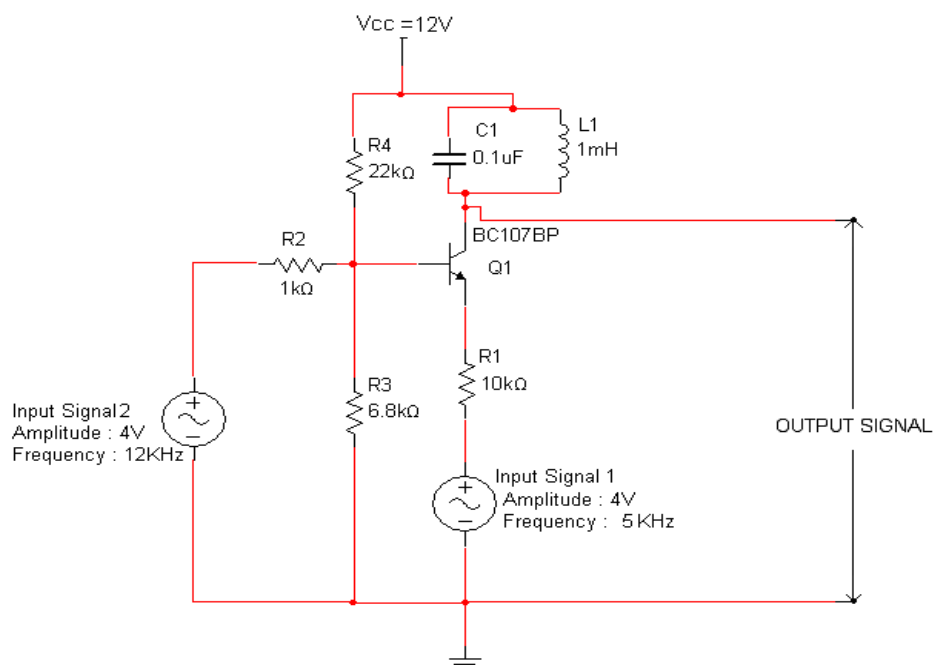

FIG.1. Mixer Circuit
1. Connect the circuit as per the circuit diagram as shown in Fig.1. Assume $C=0.1\mu\text{F}$ and calculate value of L_1 using $f = \frac{1}{2\pi\sqrt{L_1 C_1}}$ where $f=7\text{KHz}$